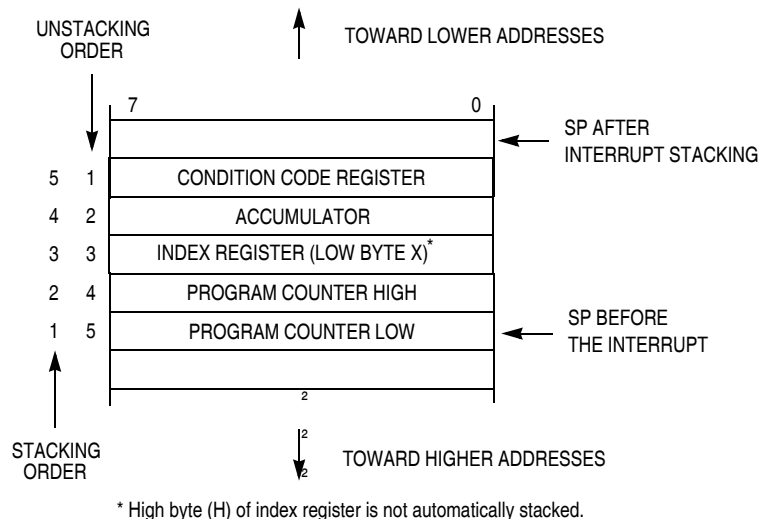

Figure 5-1. Interrupt Stack Frame
Figure 5-1 shows the content and organization of a stack frame. Before the interrupt, the stack pointer (SP) points at the next available byte location on the stack. The current values of CPU registers are stored on the stack starting with the low-order byte of the program counter (PCL) and ending with the CCR. After stacking, the SP points at the next available location on the stack, which is the address that is one less than the address where the CCR was saved. The PC value that is stacked is the address of the instruction in the main program that would have executed next if the interrupt had not occurred.